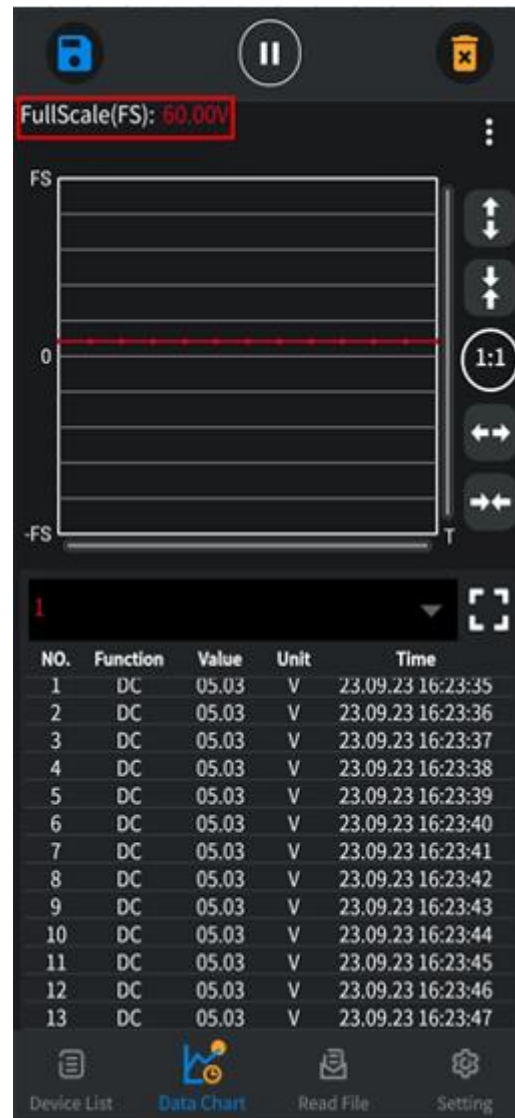

Figure2
- Figure 2: The reading is 05.03V. Adding a decimal to the third digit of 6000 gives a full scale of 60.00V.